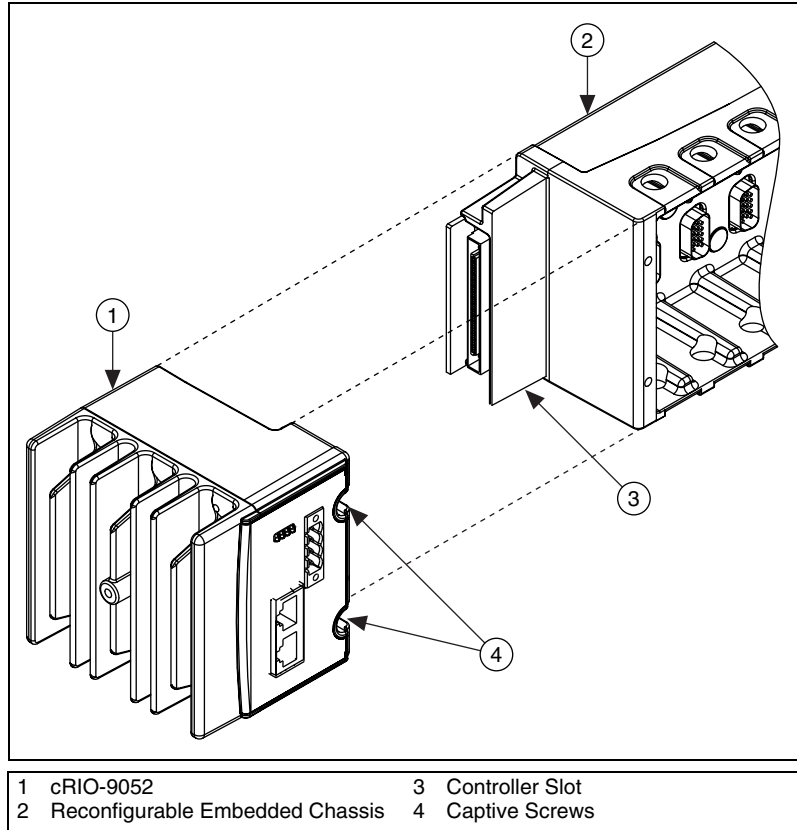

Figure 3. Installing the cRIO-9052 on the Chassis
2. Align the controller with the chassis as shown in Figure 3.